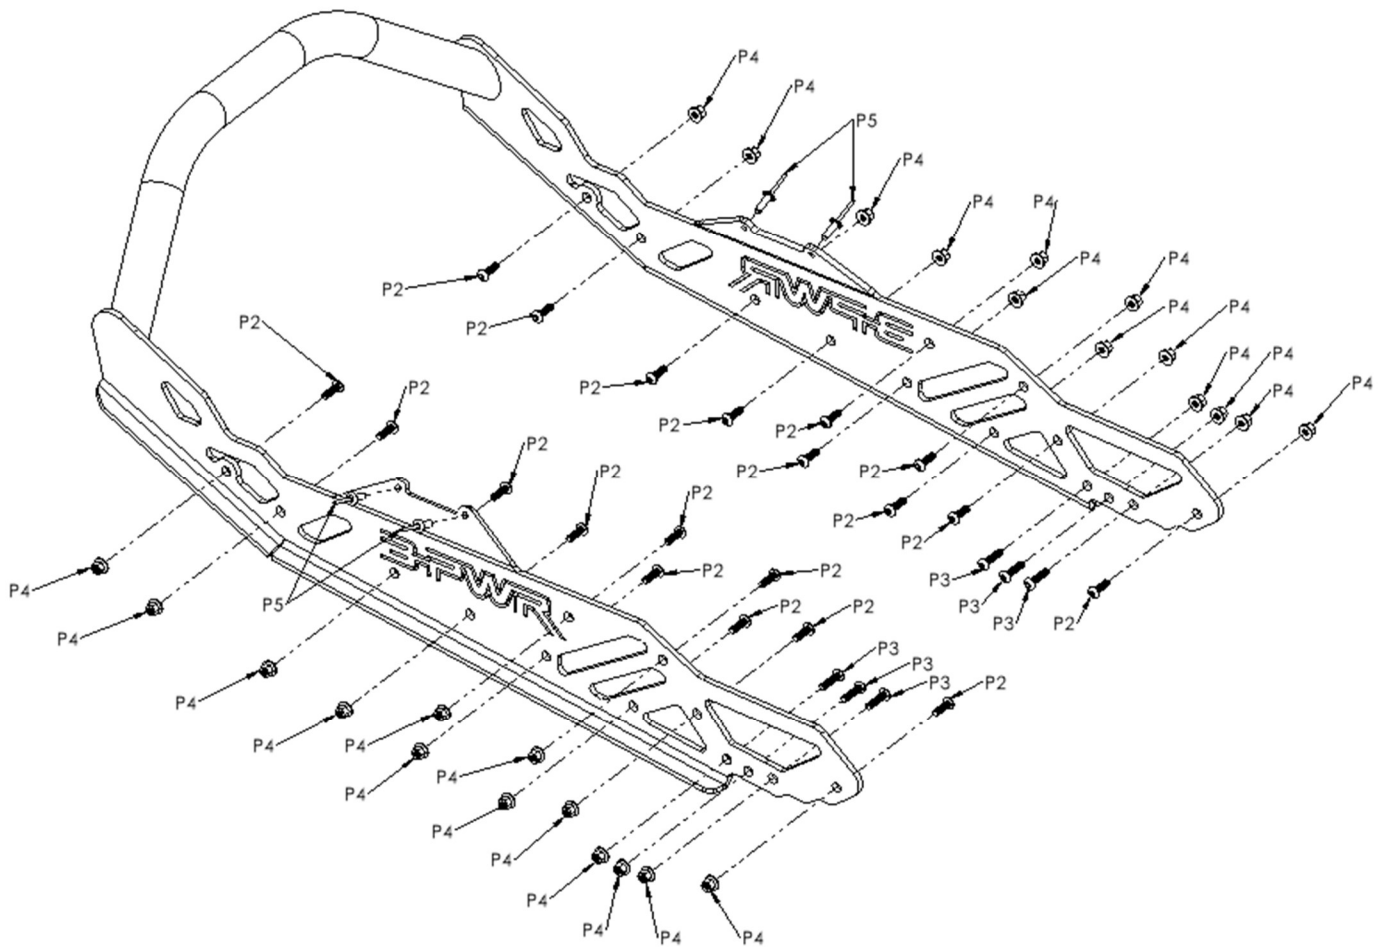
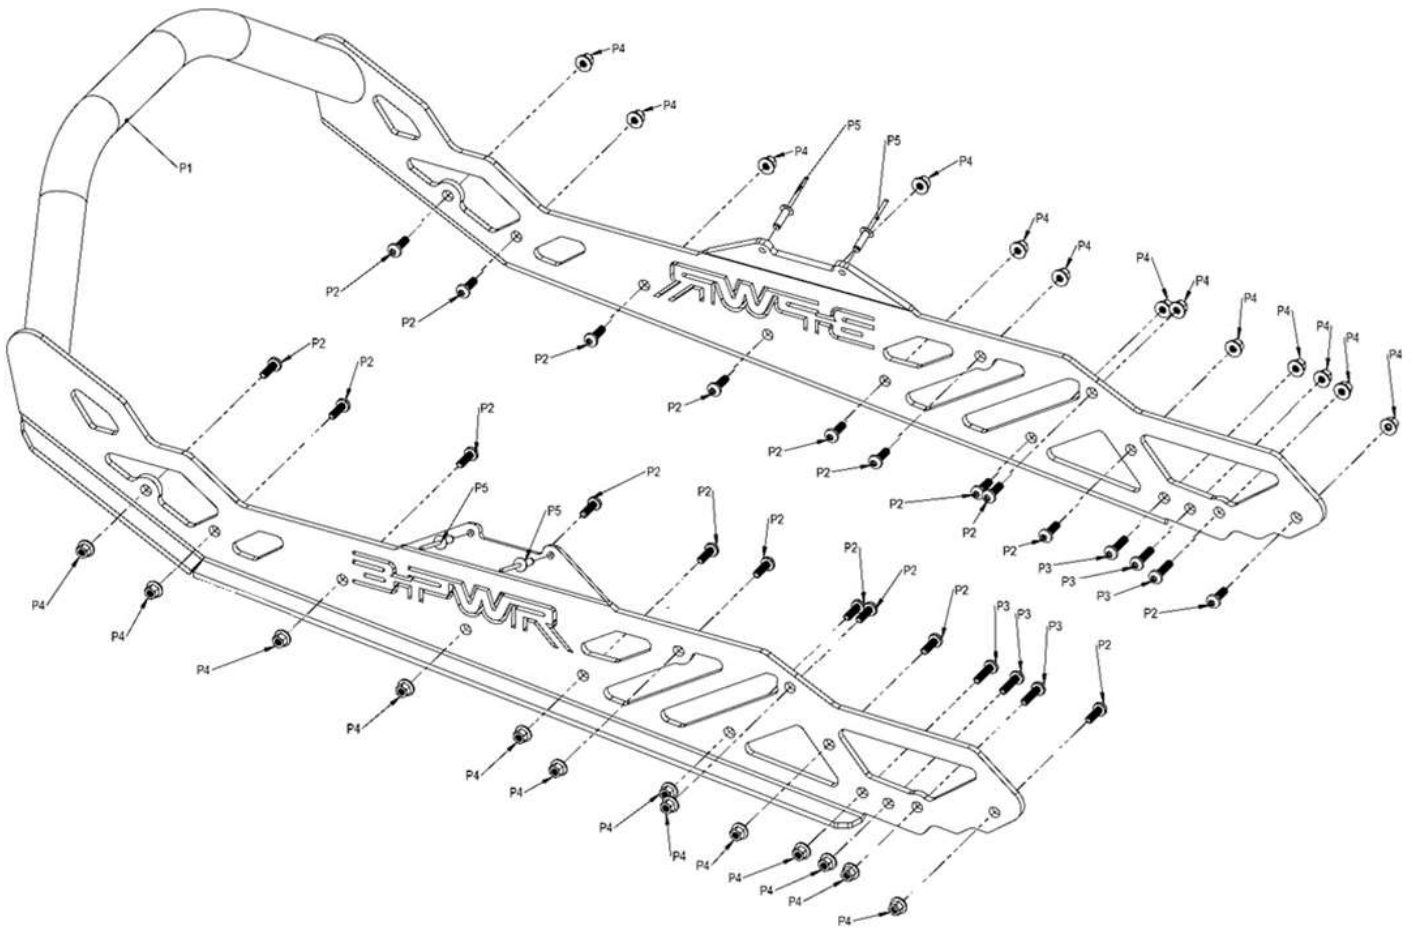
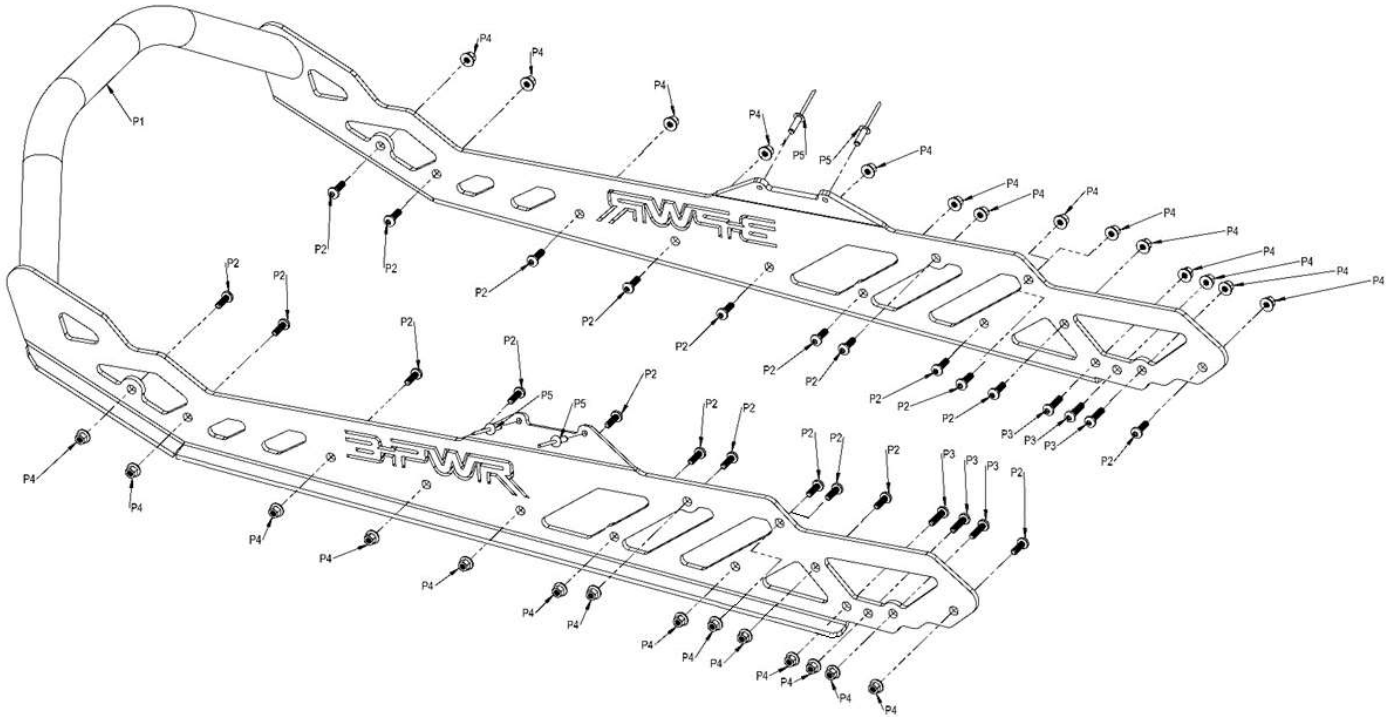

Fig. 1.1
Fig. 1.2
Fig. 1.3
***Attention :*** see fig 1.1, fig 1.2 and fig 1.3 for the position of the screws according to their lenght.